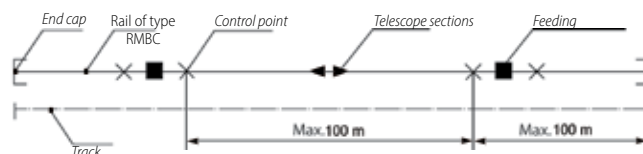

Fig.2
2. In case the conductor rail passes from the inside to the outside. Thus, icing of the outer part is prevented, since warm air finds an outlet and no condensation forms on the rails (see Figure 2). Alternative solution: Anti-condensation section (see page 11)